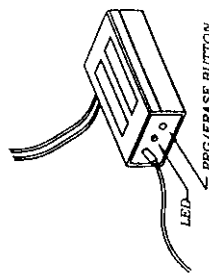

Figure 5-1
1. * LOCATE the receiver PRG/ERASE button. (Figure 5-1)